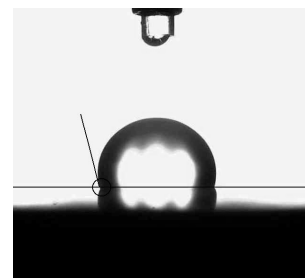

Fig. 2.16 Point of reflection
- Locate the point of reflection on the droplet at the edge of the contour (black circle in Figure 2.16).